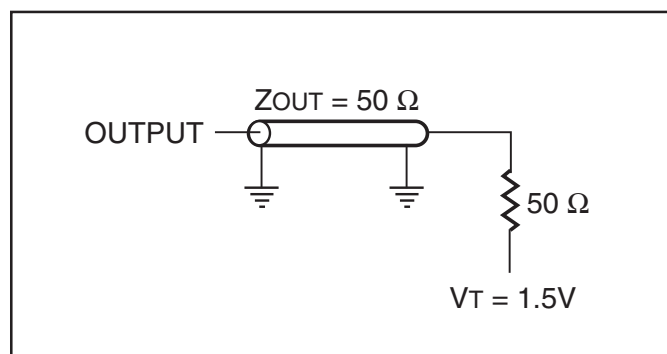

Figure 1
- Test conditions assume signal transition times of 3 ns or less, timing reference levels of 1.5V, input pulse levels of 0 to 3.0V loading specified in Figure 1.
Output Load	See Figures 1 and 2
- Test conditions assume signal transition times of 3ns or less, timing reference levels of 1.5V, input pulse levels of 0 to 3.0V and output loading specified in Figure 1.